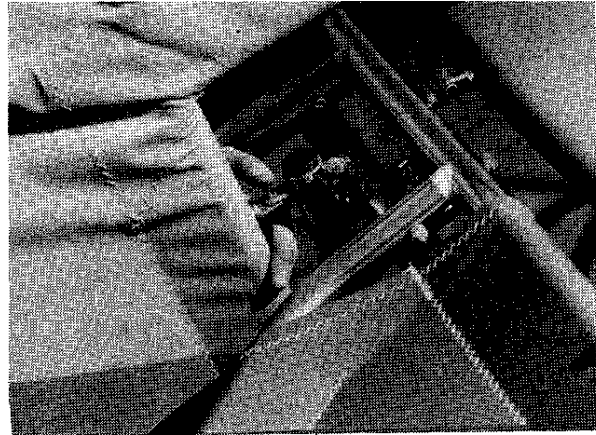

Figure 2.53
59. Attach rudder eyebolts to forks using (2) 3/16" clevis pins and safety rings. Be sure pins point downward. **Figure 2.53**